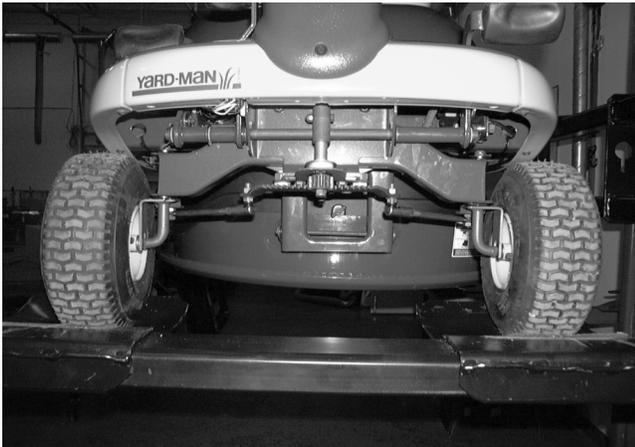

FIGURE 1.
- 3). Place the steering wheel in the straight forward position. See figure 1.